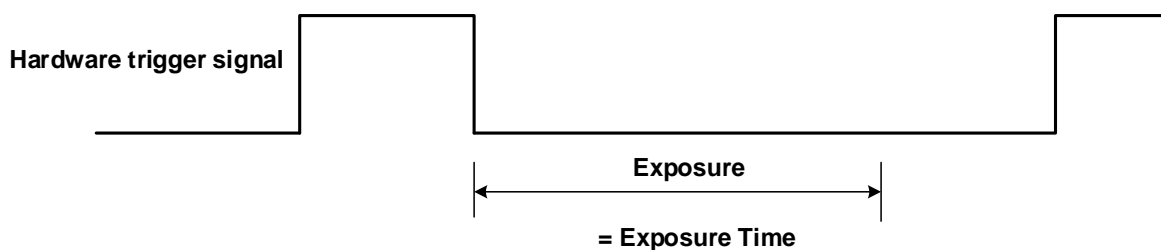

Figure 8-27 The sequence diagram in falling edge trigger of Timed exposure mode
- If falling edge triggering is enabled, exposure starts when the trigger signal falls and continue until the exposure time has expired, as shown in Figure 8-27